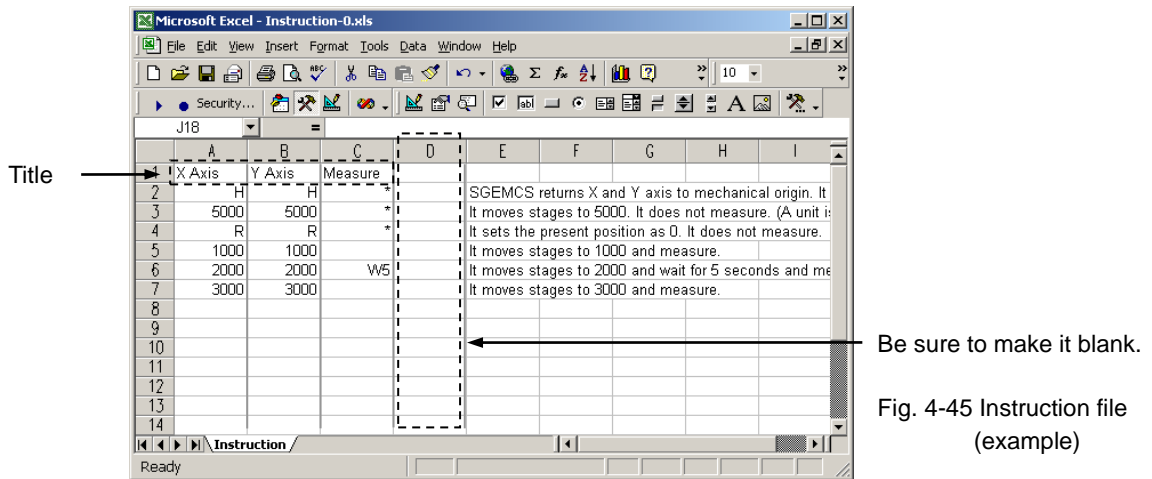

Fig. 4-45 Instruction file (example)
- * In figure 4-45, cells on the first row are assigned to X-axis, Y-axis and measurement. Enter any of characters, symbols or numeric values, but be sure to begin with the first row.
- R : Designate the position as the origin in logical coordinate system, and assign the coordinate (0).